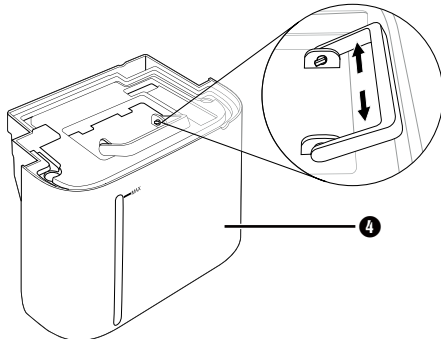

Fig. 5
- ▶ Do not clean the water tank ④ in the dishwasher. Otherwise, it will be damaged.
- ◆ Remove the water tank ④, pour the water away and dry it well inside and outside before replacing it in the appliance.
- ◆ To clean the inside of the water tank ④, remove the cover. To do this, tilt the handle forward until the pins on the handle are aligned with the grooves on the water tank ④. You can now remove the grip by pushing it out of the groove on both sides (see figure 5).